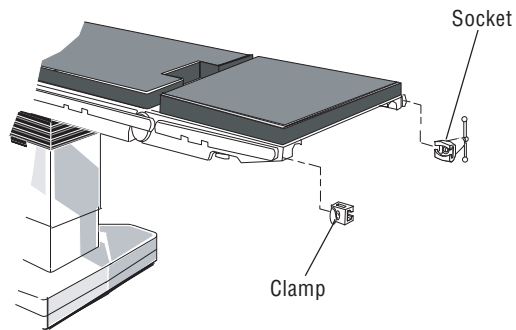

Figure 4-14. General Accessories Applied to Side Rails
1. To install, place clamp (or socket) on side rail and lock in position with knob (or handle) provided (see Figure 4-14).